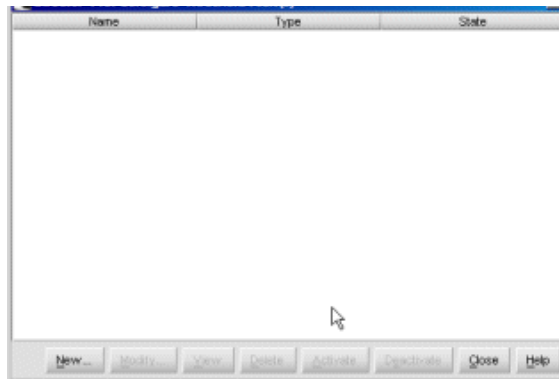

Figure 31: Configure Threshold Alerts dialog box
1. At the **Hardware View** page, choose **Configure > Threshold Alerts**. The Configure Threshold Alerts dialog box displays, as shown in Figure 31.